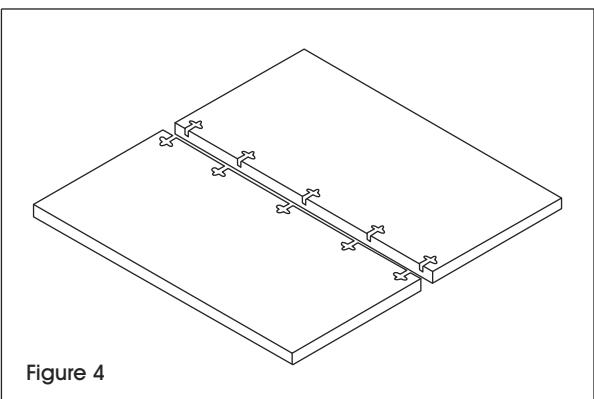

Figure 4
1. Lay top sections with field joint slots facing up on a smooth, non-marring surface to protect top sections from damage. (See Figure 4)